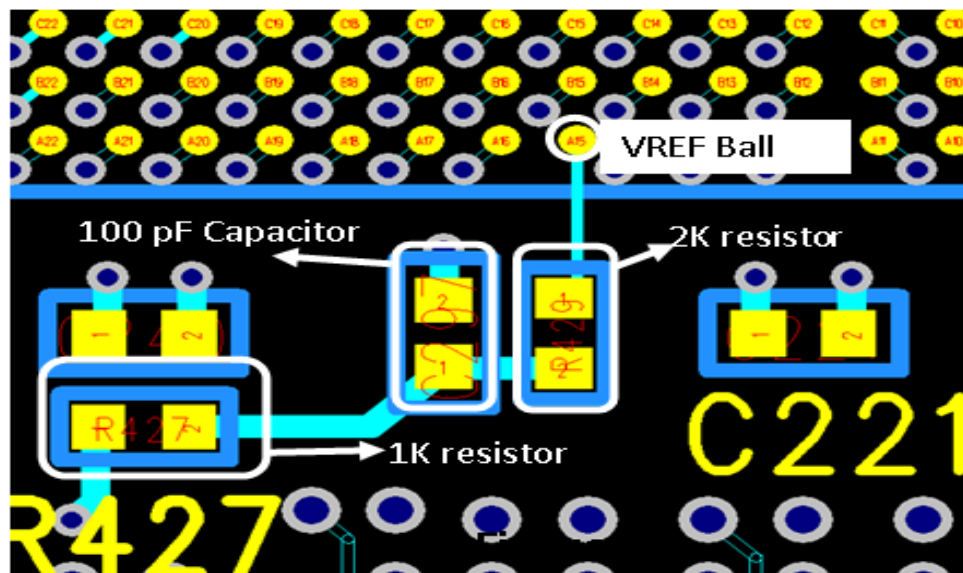

Figure 12. Recommended Placement and Routing for DMC_VREF Filtering Network
- Place the recommended RCR network between the DMC_VREF supply paths from the memory to the processor, as shown in Figure 12. For more details, please refer to the ADSP-SC589 EZ-Board schematics^[3].